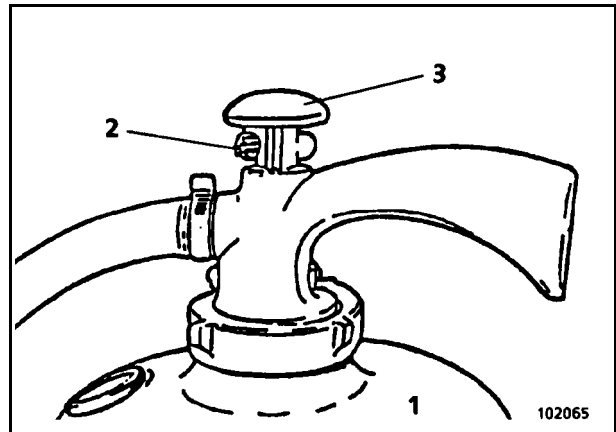

Fig. 2-21:
- Pull out securing pin (2, Fig. 2-21:).
- Strike knob (3) hard, then release again.